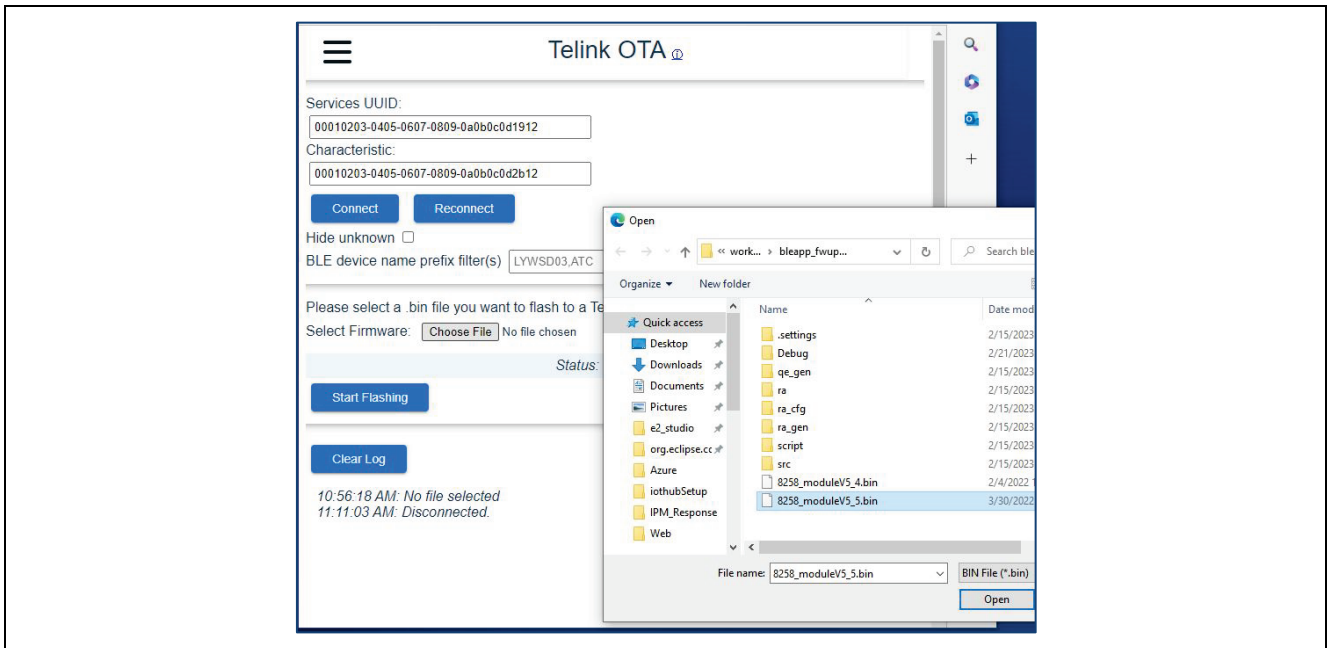

Figure 34. Windows PC Update – Choose Firmware Bin File
- Use “**Choose File**” to select Firmware BIN file from the e2 studio project workspace in the project directory `bleapp_fwupdate_ryz012_ra4m2_baremetal/8258_moduleV5_4.bin` or `8258_moduleV5_5.bin`. See Figure 34.